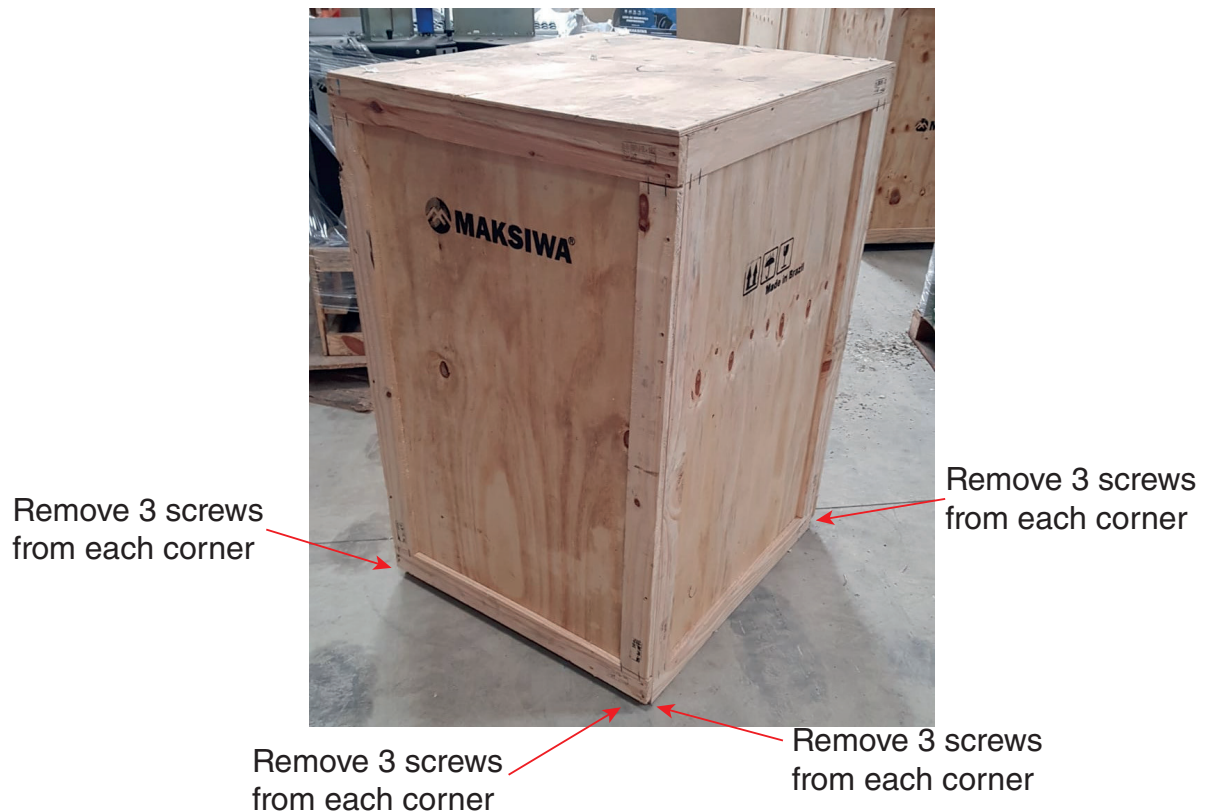

Figure 5: Unpacking
1. Remove screws from bottom of each upright corner piece (Fig. 5), typically three screws per corner.
3. Remove screws from cleat (Fig. 5 & 6)